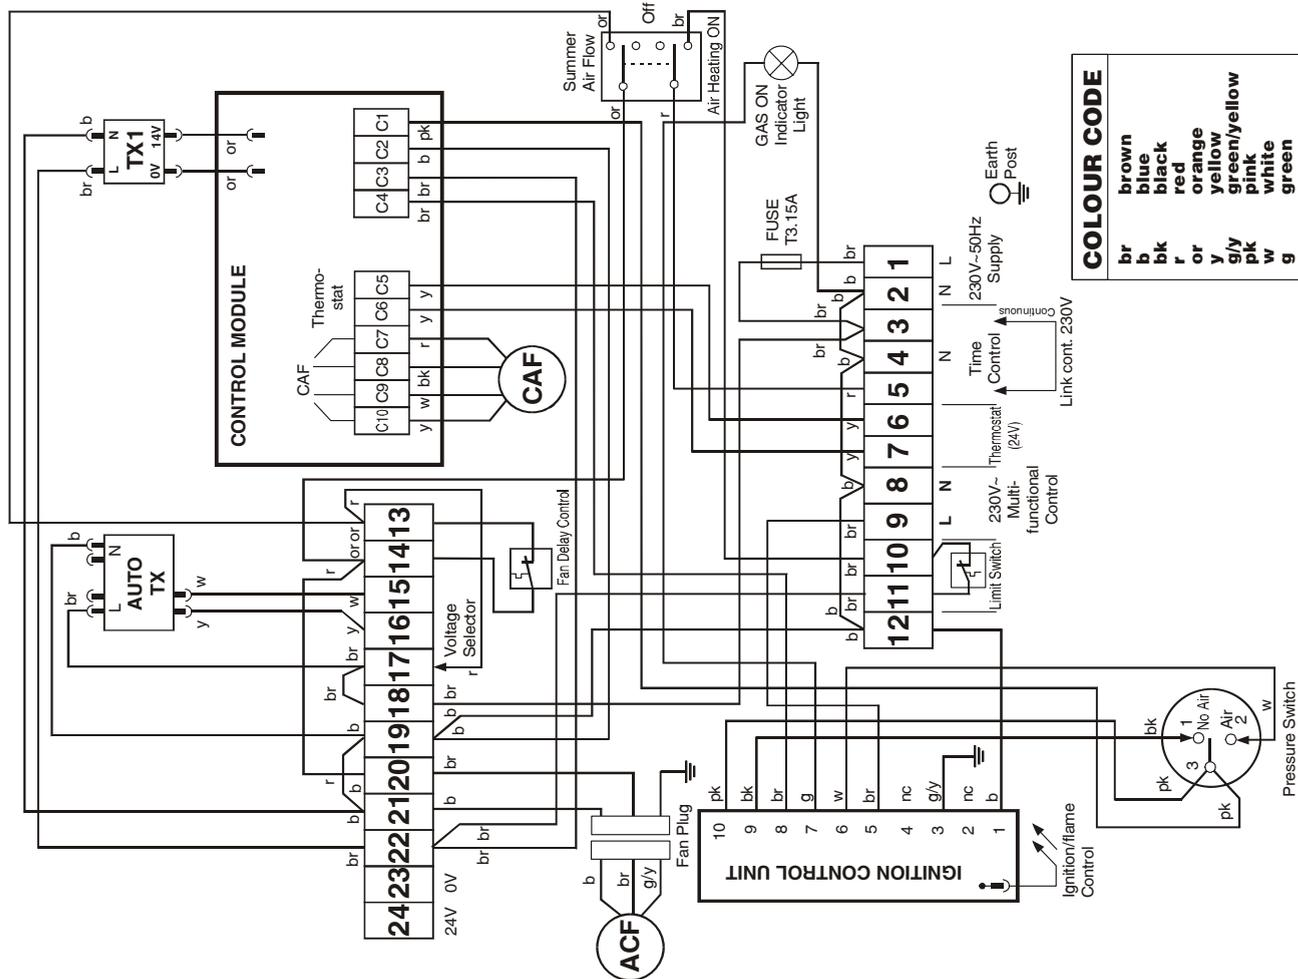

Fig. 7 JANSTAR Mk2 circuit diagram
9.12.3 Disconnect the Control Module as follows, and with reference to Fig. 7: